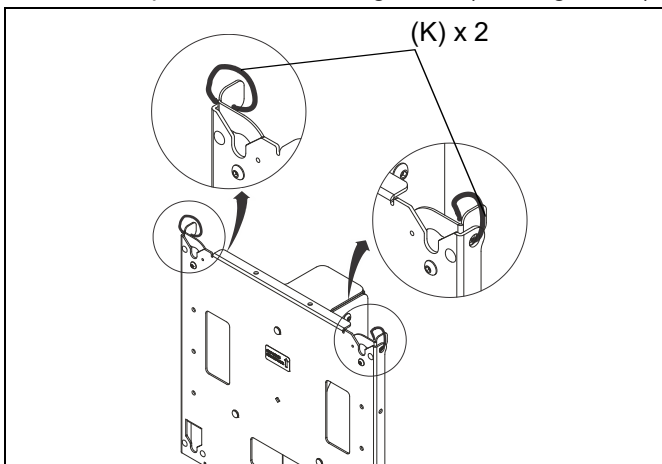

Figure 33
**IMPORTANT !** : Manufacturer recommends using cable ties (K) to secure the latching flags in closed position on both sides if padlock is not being used. (See Figure 33)